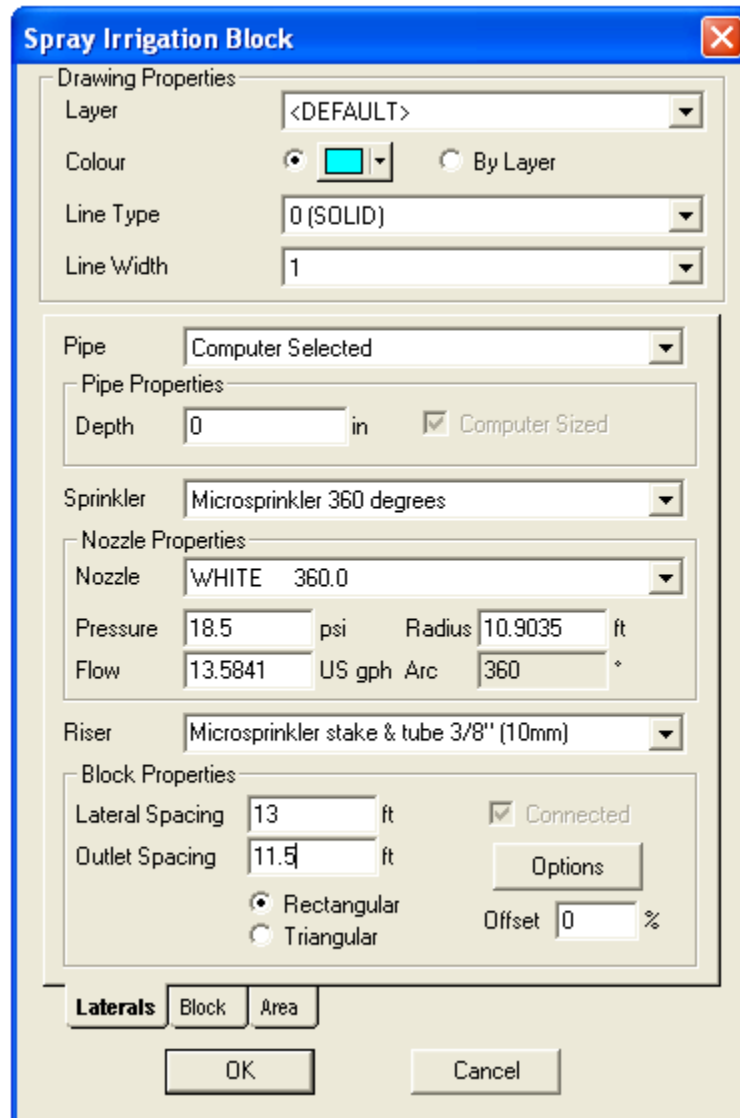

Figure SM 3
13. Set the outlet spacing type to “Rectangular” with an “Offset” of 0%. The dialog should look like Figure SM 3.